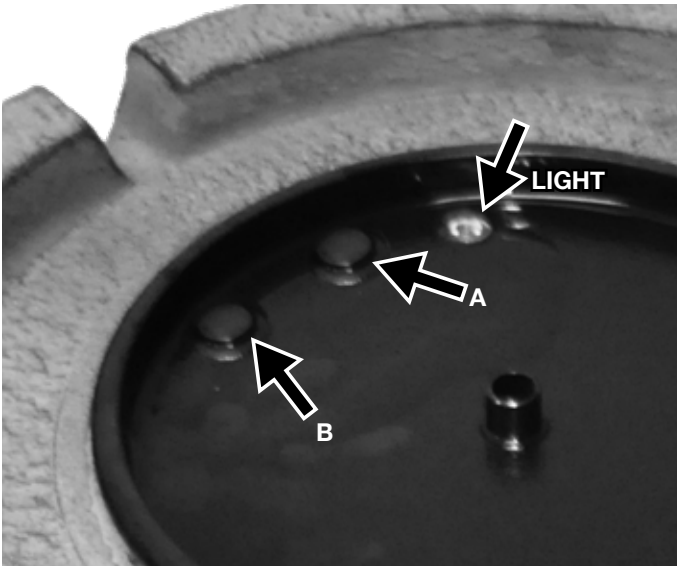

Figure 5
- **Press the B Button 1 time:** Will program the fountain to run for 1 hour each day at the same time. The light (Figure 5), will flash once to confirm your selection.
- **Press the B Button 2 times:** Will program the fountain to run for 2 hours each day at the same time. The light (Figure 5), will flash twice to confirm your selection.
- **Press the B Button 3 times:** Will program the fountain to run for 3 hours each day at the same time. The light (Figure 5), will flash 3 times to confirm your selection.
- **Press the B Button 4 times:** Will program the fountain to run for 4 hours each day at the same time. The light (Figure 5), will flash 4 times to confirm your selection.